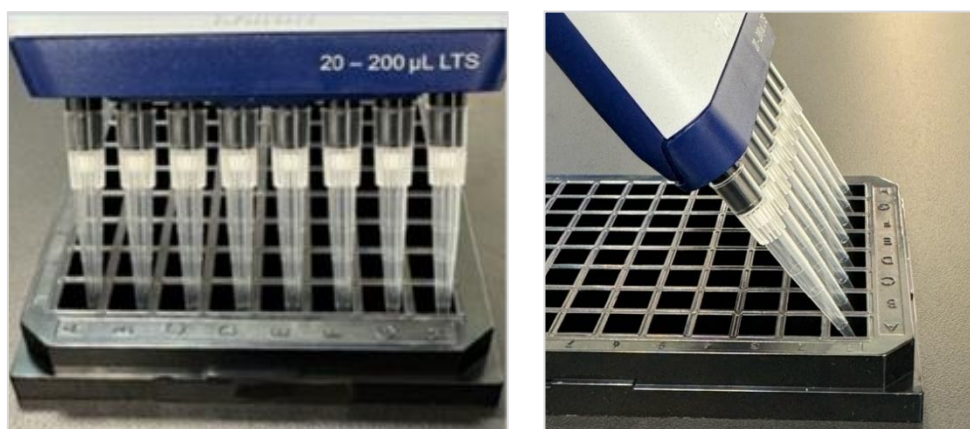

Figure 4. The described method of pipetting out of the Quantum Barcoding Plate wells. Always ensure the liquid is removed from the same corner of a well.
5. Remove the Wetting Buffer from each well by pipetting from a selected corner of the well as shown in Figure 4.
7. Remove the Hyb Buffer A from each well by aspirating the liquid from a selected corner of the well as shown in Figure 4.